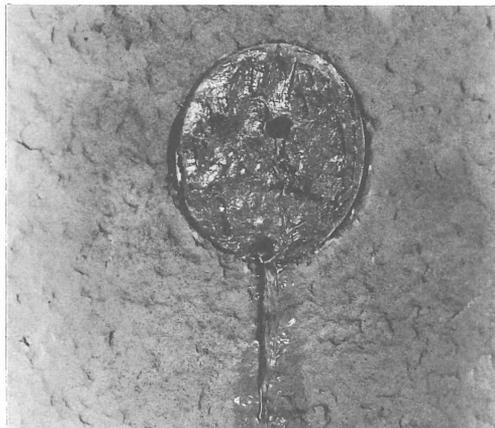

FIGURE 15
- 8.01 Where cement or putty seals are leaking, punch a $\frac{1}{2}$ " hole at the top of the conduit through the existing seal. (see Figure 15)